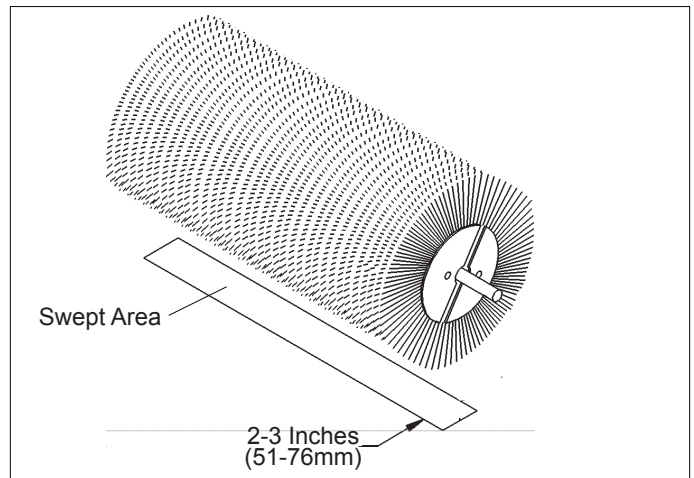

figure 5
4. Raise the sweeper and back away; switch off the sweeper and engine and remove the key. The brush pattern left in the dust should be 2-3 inches (51-76mm) wide, running the length of the brush. Compare the swept area with figure 5.